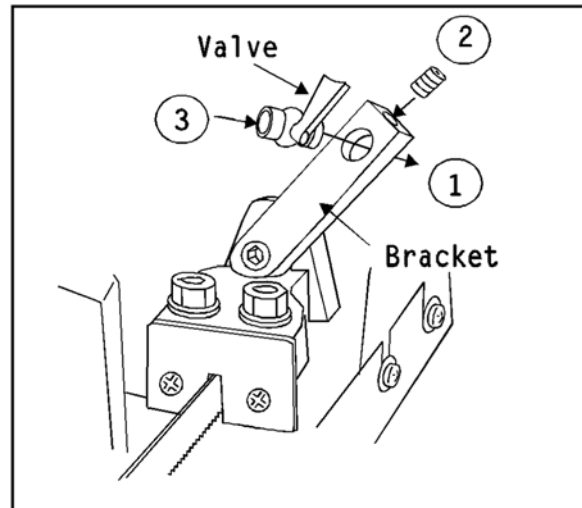

Figure 7: Installing valve in valve bracket
Refer to sect. 12.4.1 for a complete view of the components in the coolant kit, and refer to *Figure 7* for the attachment of the valve to the valve bracket on the guide bearing seat.
5. Install the valve, back end first, into the bracket (*Figure 7*).